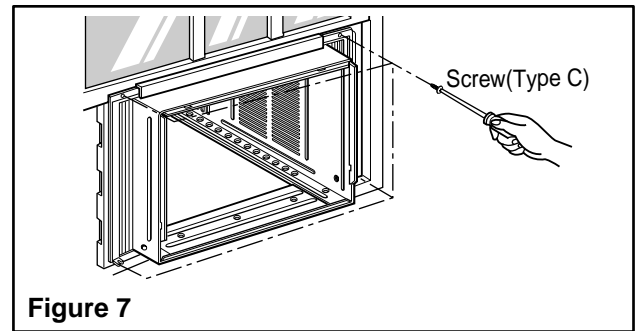

Figure 7
6. Attach each Frame curtain the window sash by using screws (Type C). (See Fig. 7)